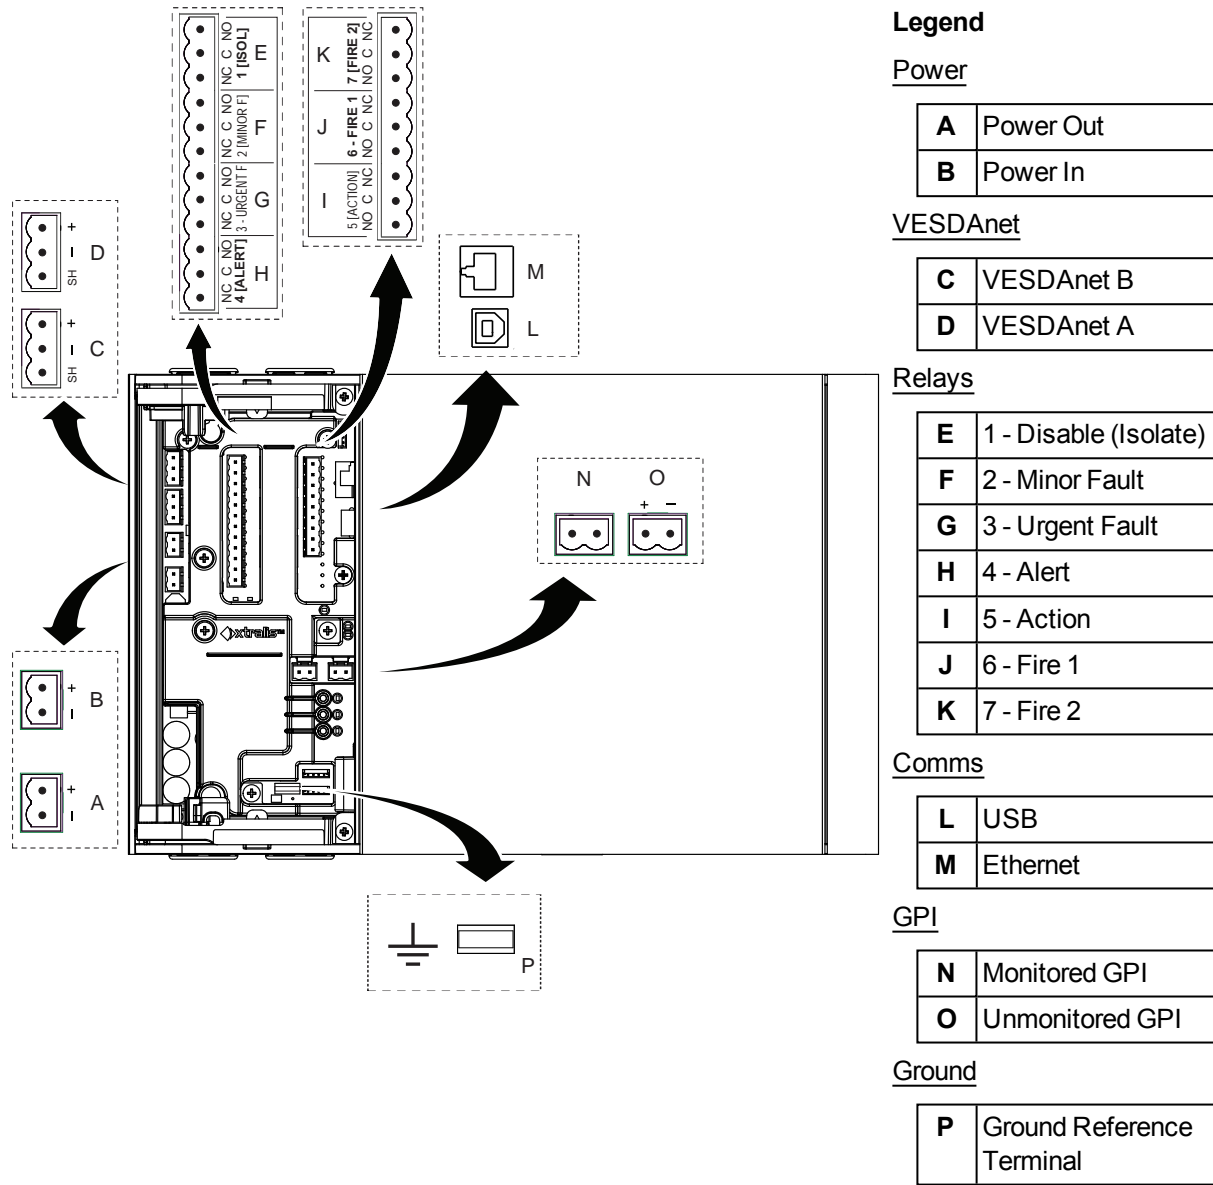

Figure 4-33: Socket Locations
There are two sets of power terminals on the main board (Figure 4-33). Connect a 24 VDC power supply which is compliant with local fire protection codes and standards to the PWR IN socket, and if required loop out to another detector via the PWR OUT socket.
The front door must be opened in order to access the communication ports. Refer to Section 7.2 for information on opening the front door and Figure 4-33 for the physical location of the ports.
- In order for the detector to be able to detect ground faults on the VESDAnet wiring, the Ground Reference Terminal (Figure 4-33) must be connected to the local ground.